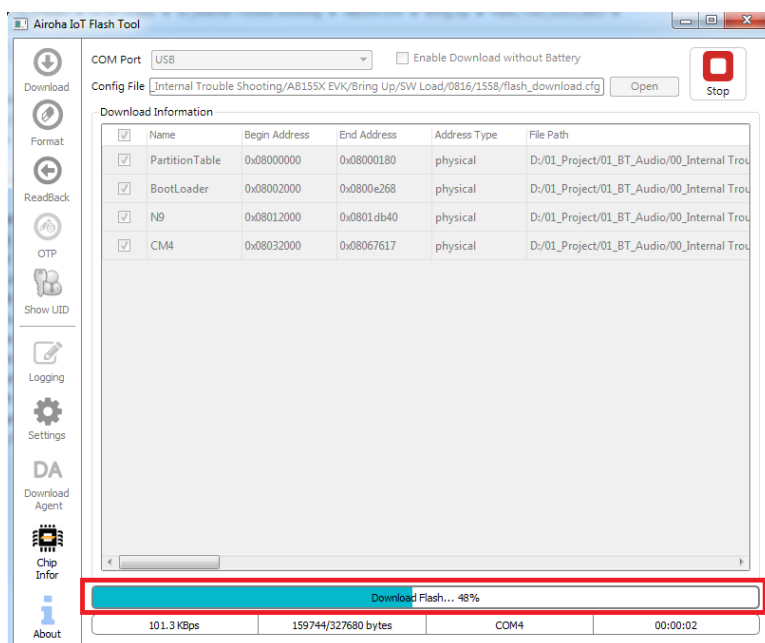

Figure 5-4 Downloading the flash file
2) Set the UART / USB on the board as shown in Figure 5-4.